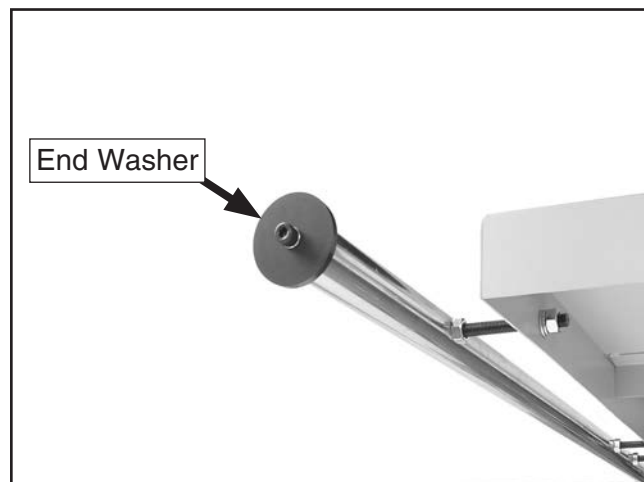

Figure 51. End washer on round rail.
46. Place the end washer (**Figure 51**) on the end of the round rail and secure it with the M8-1.25 x 16 cap screw and 8mm lock washer.